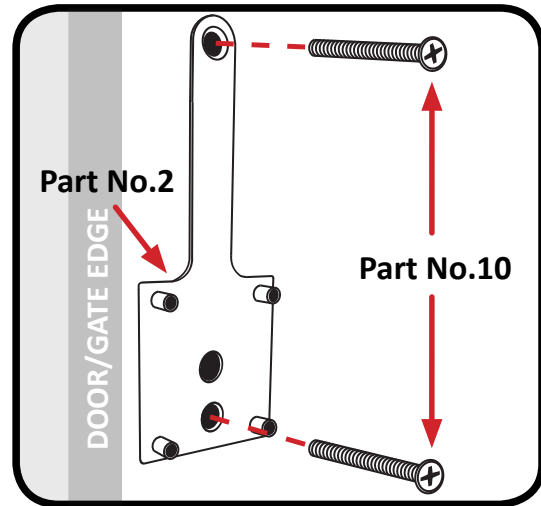

Fig.14
2. Remove the 2 screws (**Part No.10**) which holds the keypad and mounting bracket to the door/gate - as per **Fig.14** below.